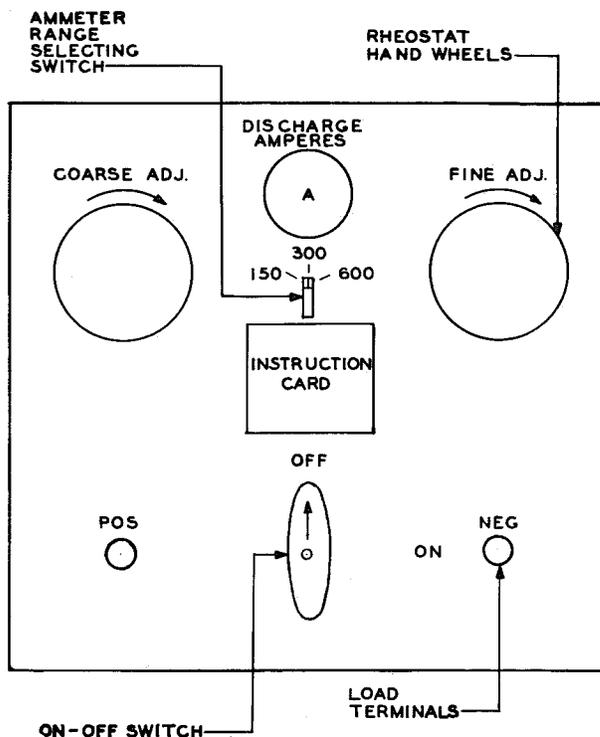

Fig. 1 - Discharger Panel
1.02 The J87116 single-cell discharger has two carbon-pile rheostats ("coarse" and "fine") connected in parallel to provide continuously variable resistance from 0.0013 to 0.5 ohm. See Fig. 1. A 100-millivolt shunt rated at 600 amperes is provided with a switch to connect the proper terminal of the multirange ammeter to the shunt depending on cell discharge rate. The discharger weighs approximately 145 pounds, plus 20 pounds for the load leads. The over-all dimensions are approximately 24" high, 25" wide, and 17" long.